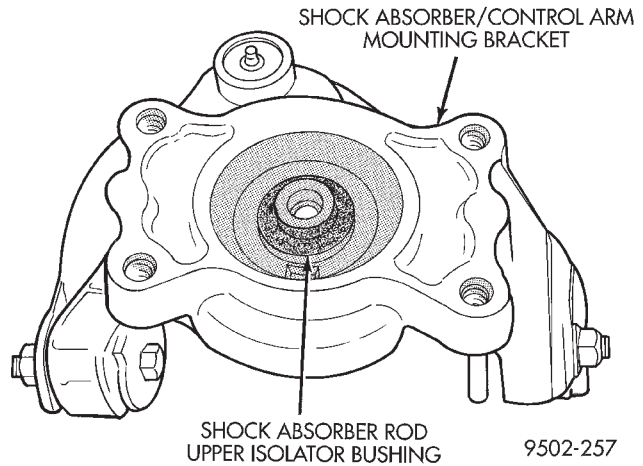

Fig. 90 Shock Absorber Rod Upper Isolator Bushing
(7) Remove the shock absorber rod upper isolator bushing (Fig. 90) from the shock absorber/upper control arm mounting bracket.
(8) Install the upper isolator bushing (Fig. 90) on the sleeve and the shock absorber/upper control arm mounting bracket.